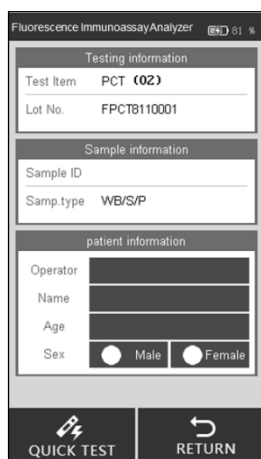

Fig 25
Step 3: Tap “**QUICK TEST**” or press the home button to switch to the testing interface. (Ref Fig 25)